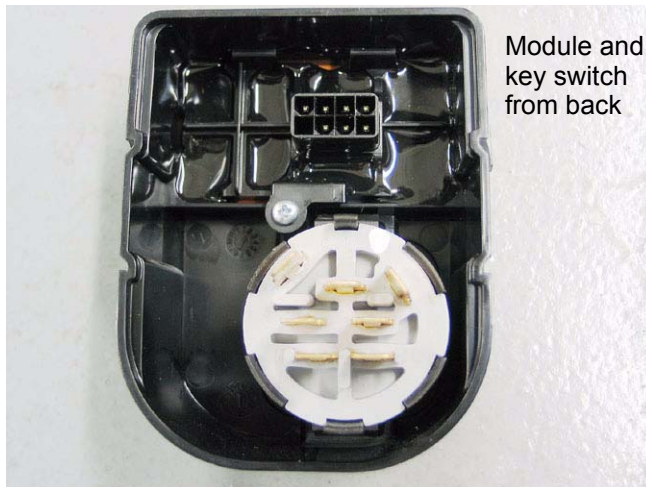

Figure 5.3
- 5.3. The key switch can be easily removed from the housing. See Figure 5.3.